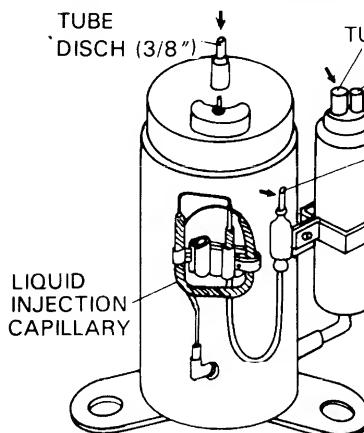

Fig. 16
- 5) With an Oxy-Acetylne torch apply heat uniformly and unbend the joints of upper section of the Liquid Injection Capillary tube to the compressor, the upper section of the accumulator and the upper section of the compressor discharge tube respectively, and pull them free with pliers. Fig. 16 shows unbending points with arrows.